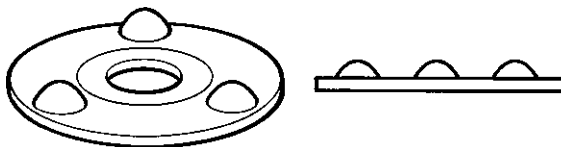

Fig. 2 Old style spacer plate
- Remove the cap (2) using a spanner.
- Lift out the spring (5), capsule (4) and spacer plate (6).
- Unscrew the valve seat (7).
- Remove the seat gasket (8).
- Fit a new seat gasket (8).
- Screw in a new valve seat (7). Use a small amount of anti-seize compound on the threads and tighten to the recommended torque (see Table 1).
- Drop in the new spacer plate (6) ensuring it is located centrally on the valve seat (7). **Note:** Early spacer plates are unidirectional and must be fitted with the highest points uppermost (see Figure 2). This does not apply to later models, which can be fitted either way up.
- Fit new capsule (4) and spring (5) ensuring that the conical spring is positioned with the narrow end pointing downwards in contact with the capsule.
- Screw on the cap (2) using a new 'O' ring (3) assembled into the groove in the top of the cap, or in older models using a new gasket. **Note:** The spares pack contains 2 sizes of 'O' ring, use of the correct 'O' ring is explained in the note contained within the package. Tighten to the recommended torque (see Table 1).